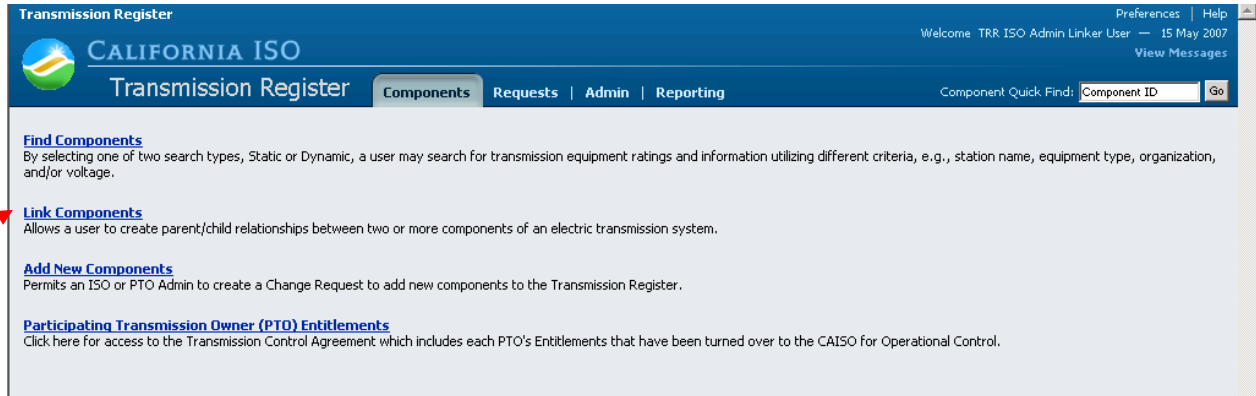

Figure 1. Components Home Page
- Click on the Components tab shown in Figure 1.